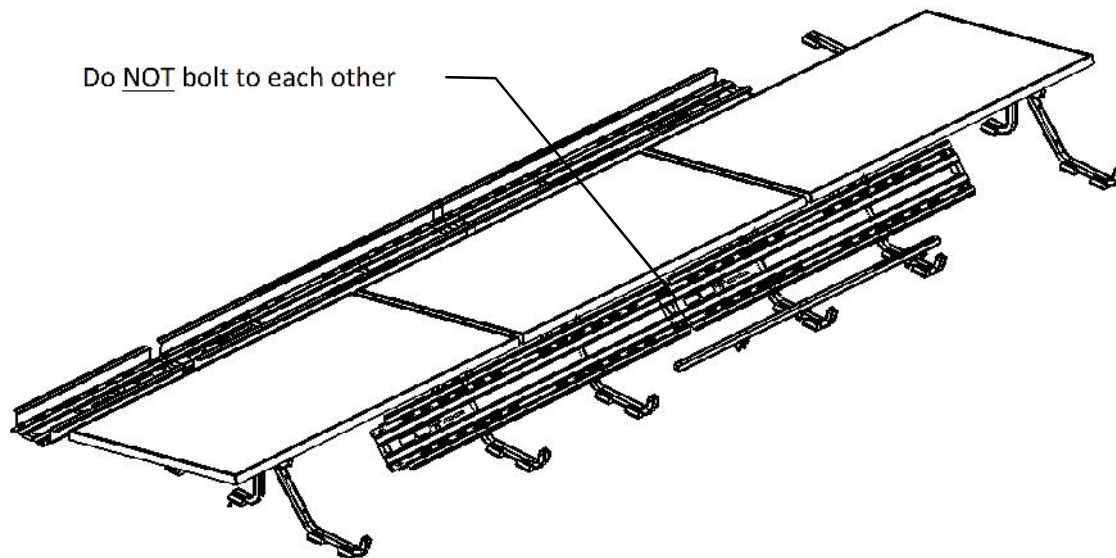

Figure 6 Attach Long Ballast Trays to Supports
13. Move to the north side of the module and install Ballast Trays on the Supports. Center the Long Ballast Trays between two modules and hang them on the pre-installed bolts. Use the Spacer Stick to ensure the low sides of the Supports are properly spaced. Thread a serrated-flange nut onto each of the pre-installed support bolts and torque to 4-6 ft-lb (48-72 in-lb) (Figure 6).